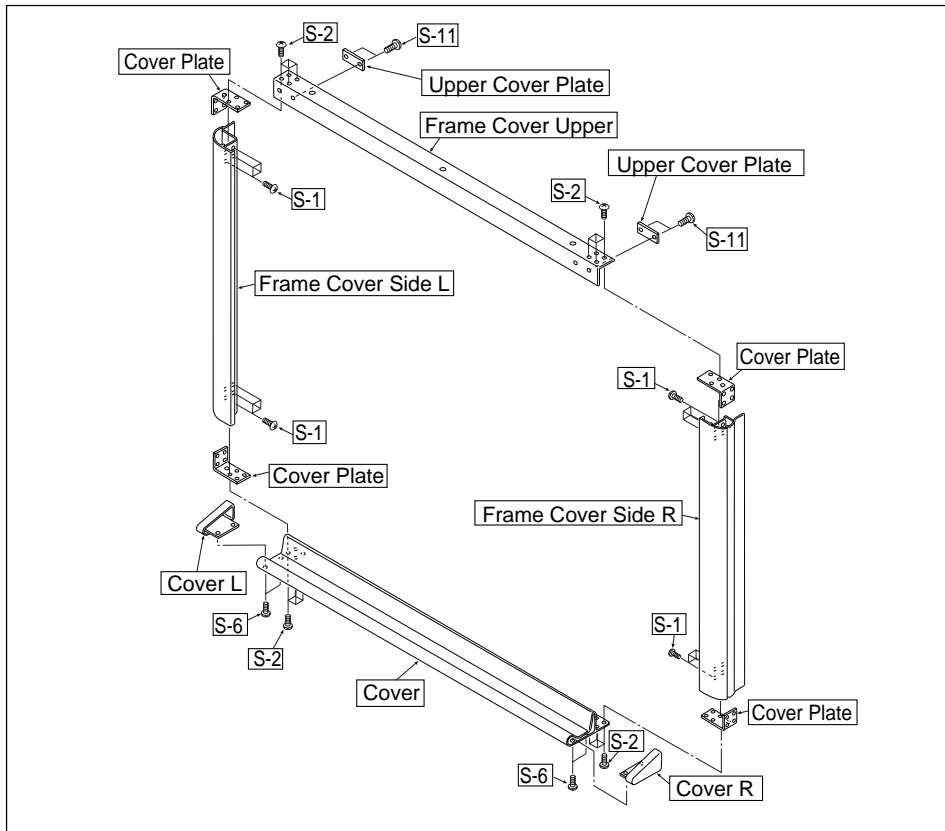

Fig. 9
6) Disassemble the Frame Cover Section. (See Fig. 9.)
Remove the "S-1", "S-6" and "S-11" screws shown in Fig. 9 and disassemble the Frame Cover.